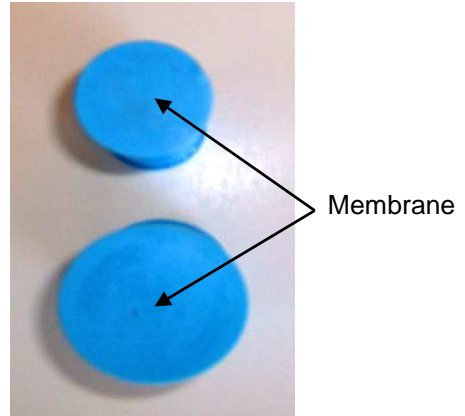

Figure 27
12.2.2 The other end of the End Plate Adapter is closed (covered with a thin membrane of material) and goes outside the Splice Case End Plate. **See Fig. 27.**